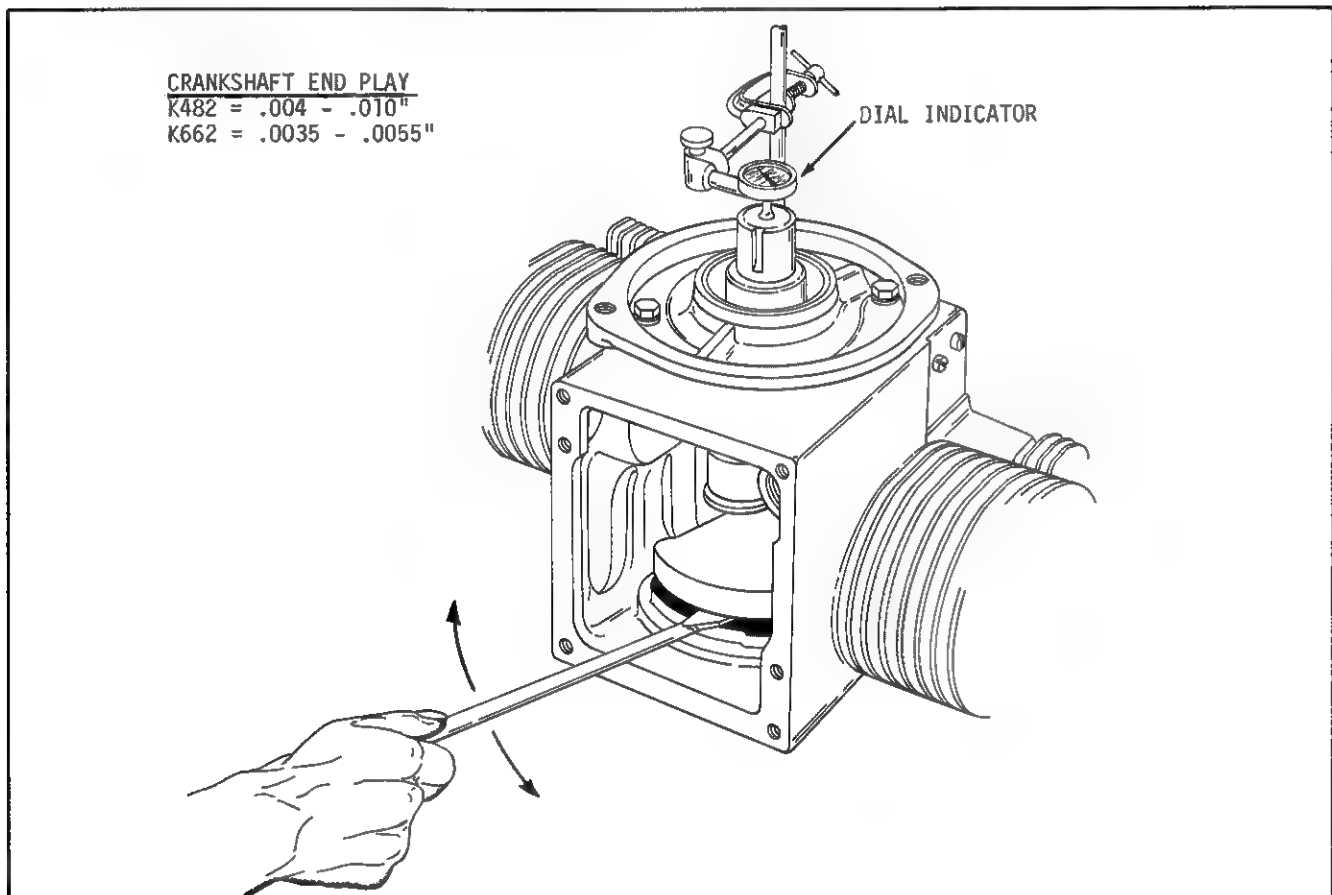

FIGURE 11-2 -- CHECK CRANKSHAFT END PLAY
3. Mount dial indicator as shown in Figure 11-2, set dial at zero then place screw driver blade between counterweight and block. Pry crankshaft toward closure plate end and observe reading on dial indicator. If end play is not in the .004" - .010" range, proceed with Step 4.
3. Mount dial indicator as shown in Figure 11-2. Set dial at zero then place screw driver blade between counterweight and block. Pry crankshaft toward closure plate end and observe reading on dial indicator. If end play is not within the .0035" to .0055" range, proceed with Step 4.